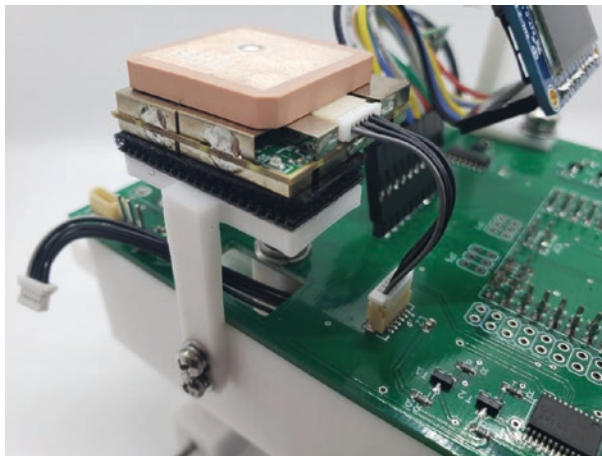

Figure 8-64. *Attach the GPS mount to the chassis*
19. Attach the GPS mount to the chassis using 2 x M2 10mm screws and 2 x M2 nuts. See Figure 8-64.